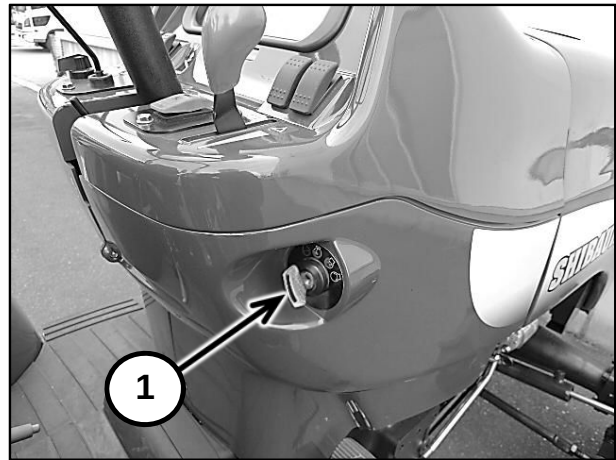

Figure 2-11
The key switch (1) in Figure 2-11, allows activation of the starter motor and fuel delivery only when: